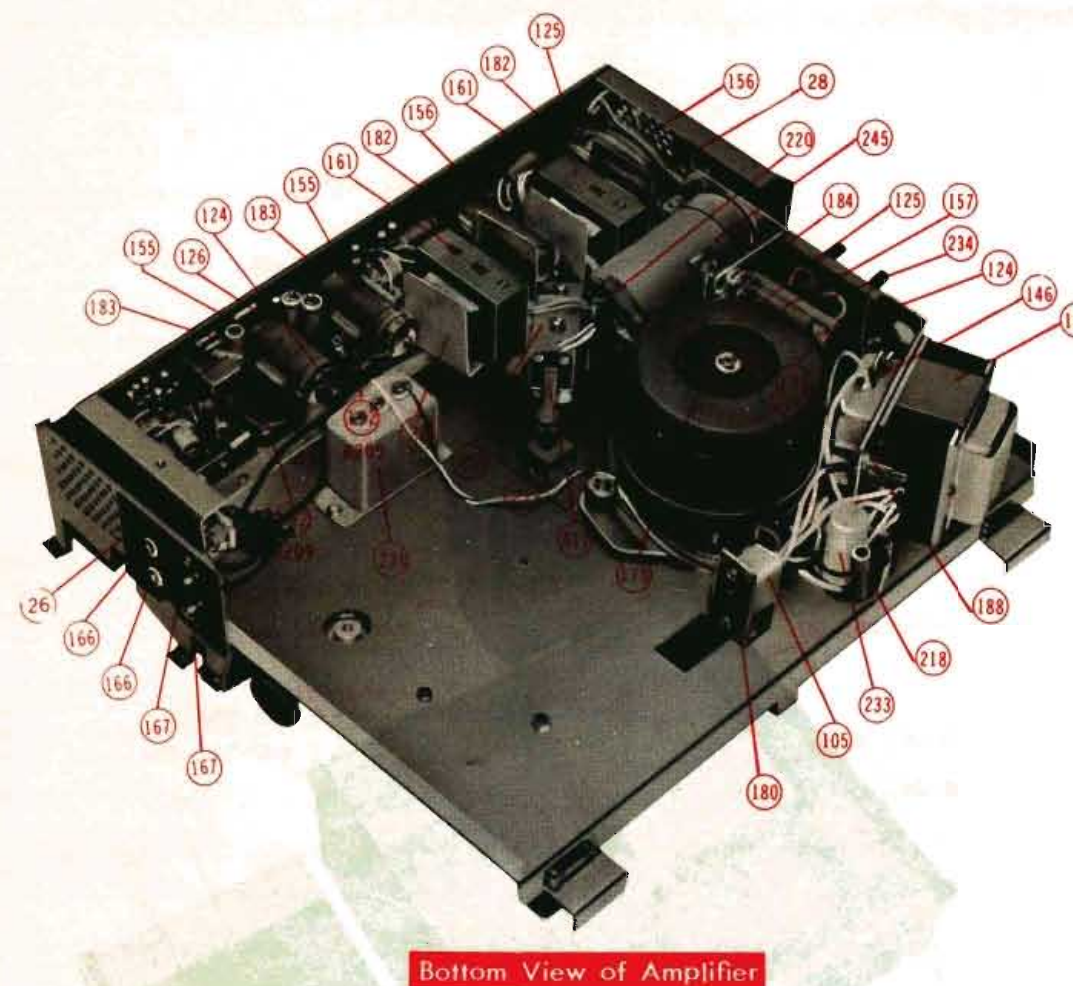

Fig. 1)
4. Turn the Volume Control Knob R109 (R209) (1192) in Fig. 1) so that the VTVM reads +2 dBs.